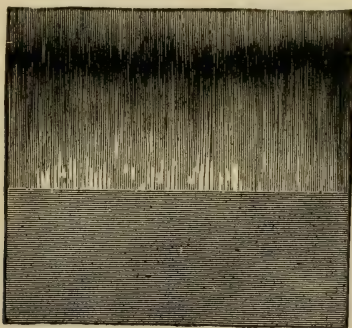

Fig. 32—Gilder's Camel-Hair Tips.
b. *Gilders' tips* are made from either badger or camel's hair or a mixture of both as the squirrel is usually too flimsy by itself. See Fig. 32.